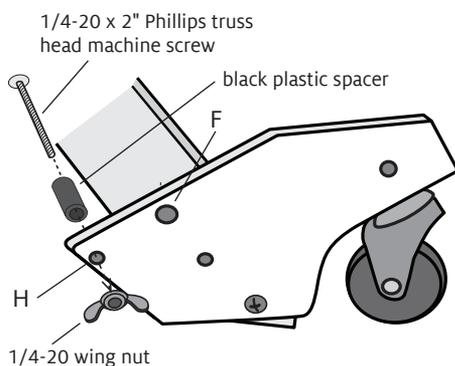

FIGURE 11: DRILL GUIDE
**6.** Set up the rear caster block as a drilling jig: Insert the the 1/4-20 x 2" Phillips truss head machine screw into the black plastic spacer. Slide the screw through hole [H] from the inside of the loom, and tighten a 1/4" wing nut down on the exposed bolt (Figure 11).